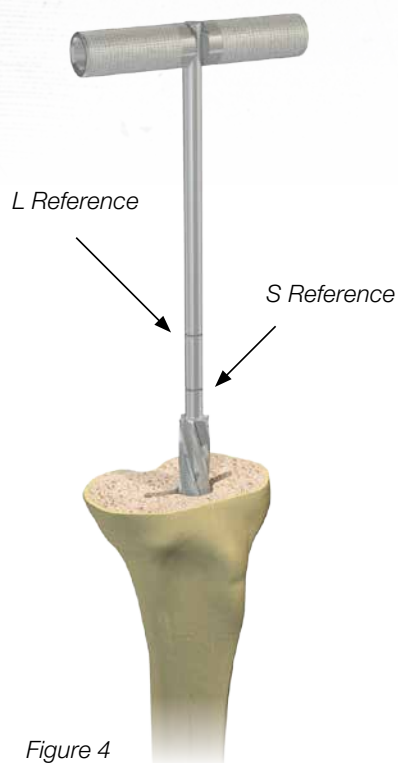

Figure 4
When the second reference is reached (L), the trial implant assembly to be used is the trial stem assembled with the S tibial module and the L extension. Therefore for the final implant assembly, the definitive stem will be assembled with the “L” module (Fig. 4) (See tab. 1).